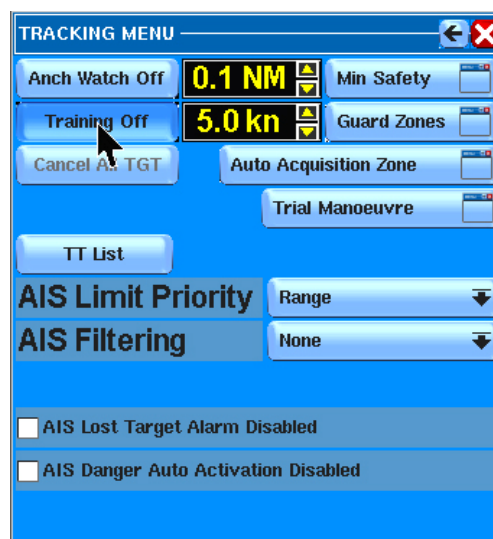

Figure 5.7.1 Tracking Menu
Operating within the AIS it is possible to perform the same operations performed in the RADAR Target System, Figure 5.7.1 displays the operations performed only by the RADAR Target (left column), by RADAR Target and AIS and only by the AIS (lower two buttons).
In the Tracking Menu, special features regarding Radar targets only, AIS only or both of them are found (see Figure 5.7.1):
1. Press the “Trial Manoeuvre” button (Figure 5.7.1) to open the Trial Manoeuvre Menu (Figure 5.15.1).